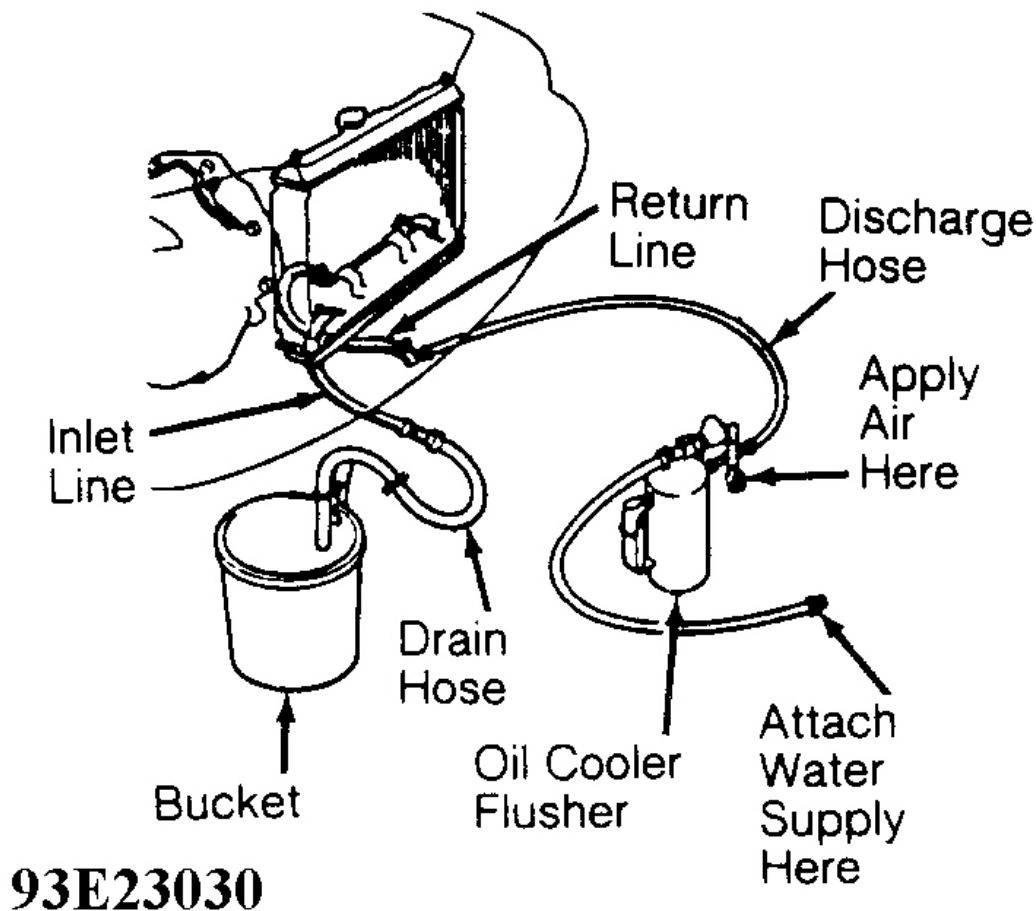

Fig. 3: Installing Oil Cooler Flusher
1. Attach Oil Cooler Flusher (J38405-A) to oil cooler lines. See **Fig. 3** . Fill oil cooler flusher tank 2/3 full with Flushing Fluid (J35944-20). **DO NOT** use any other flushing fluid.